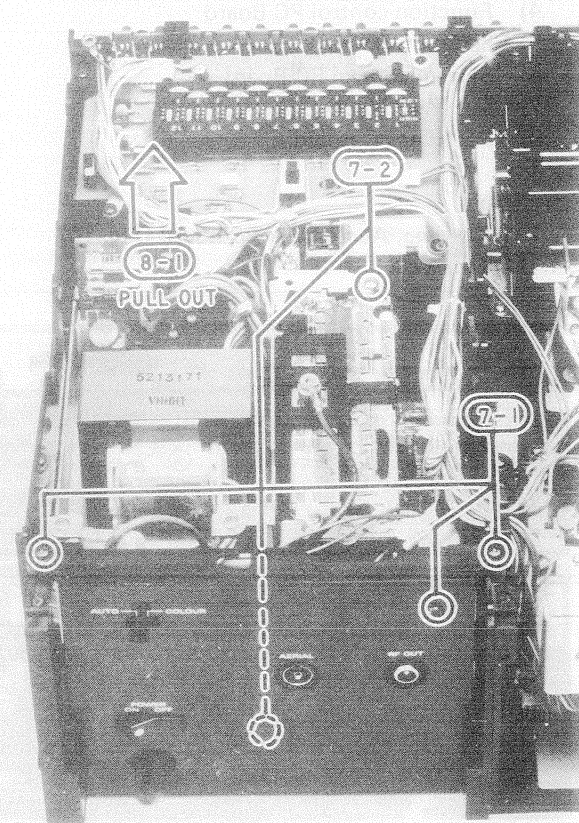

Fig. 16
7. Tuner/IF block (Fig. 16)
8. Rectifier PC Board (Fig. 16)